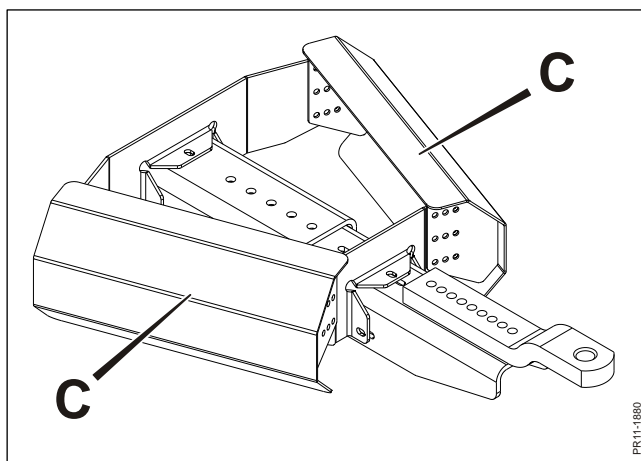

Fig. 2-16
**Fig. 2-16** Crash pads **C** must be fitted in order to ensure that the wide-angle PTO shaft is not damaged. They also prevent a collision with the folding chute in its transport position, if you turn the machine too abruptly.